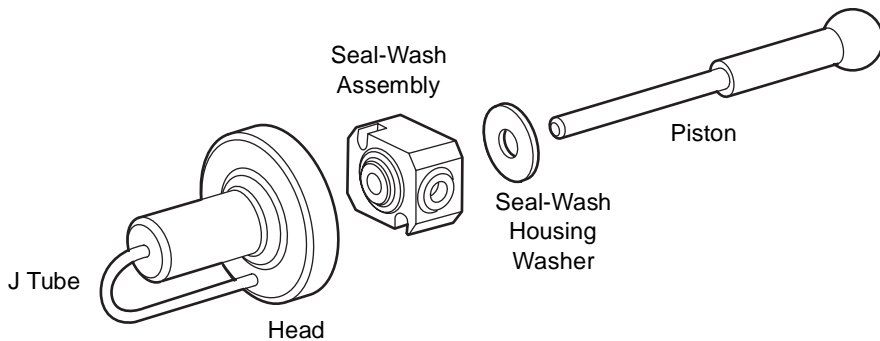

Figure 4-22 Head Piston Assembly
10. Remove these head piston assembly components from the piston chamber (Figure 4-22):
7. Install the seal-wash housing washer (Figure 4-22).
2. Reinstall the piston, washer, seal-wash housing, and head. The head alignment pin should be correctly positioned, and the J-tube should face downward (Figure 4-22).